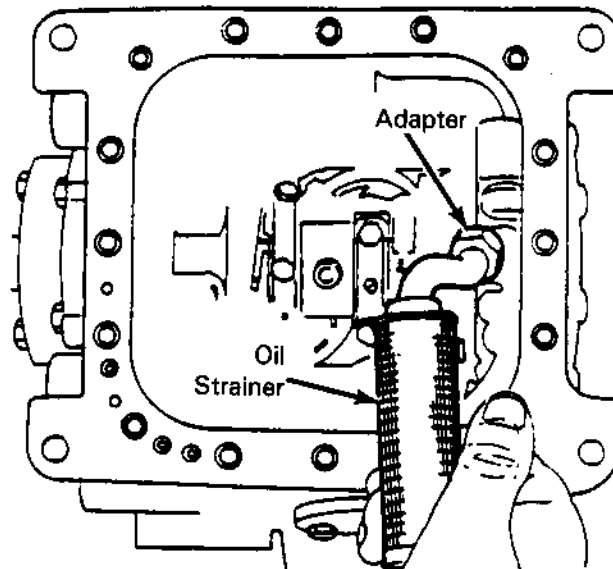
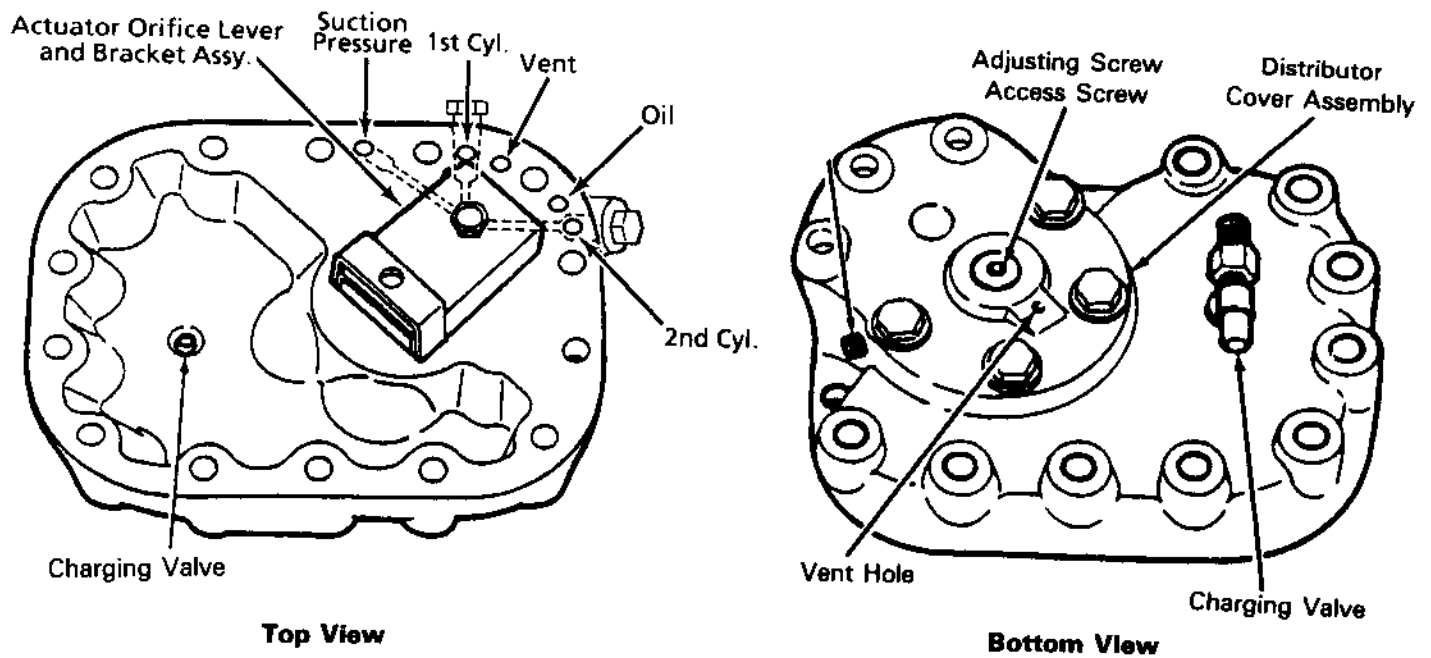

Figure 25 — Removing Crankshaft Oil Strainer
Figure 26 — Handhole Cover Assembly Views
2. Remove the cover attaching bolts (4, 6 and 21). Tap around the edge of the cover with a plastic or rawhide hammer to loosen cover (2), then remove the cover and cover gasket (1).
3. Disconnect oil strainer (27) by loosening compression fitting (28) on the oil supply line. Remove the oil strainer (Figure 25).
4. The capacity control distributor cover (16) is attached to the bottom of the handhole cover. Disassemble the capacity control assembly only to the extent covered below:
- a. Referring to Figure 26, remove four cap screws which attach the distributor cover (16) to the handhole cover (2). It may be necessary to jar the cover to break the gasket seal. Remove the cover and cover gasket (15).
- b. Remove plunger (8), bellows (9), spring (11), lower and upper spring seats (10 & 12), sleeve (12) and o-ring (14) from the distributor cover.
- c. Remove oil strainer screen (7) from the handhole cover and clean with refrigerant parts cleaner.
- e. Remove orifice, bracket and lever assembly as required to clean and polish piston bore (Figure 26). Do not mix bracket/orifice assemblies or disturb orifice adjustment screw.